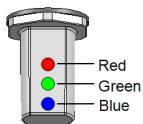

Figure 11: LEDs
- **Inverter LED indicator** (See *Figure 11*) : Indicate the inverter statuses as described in the following table: